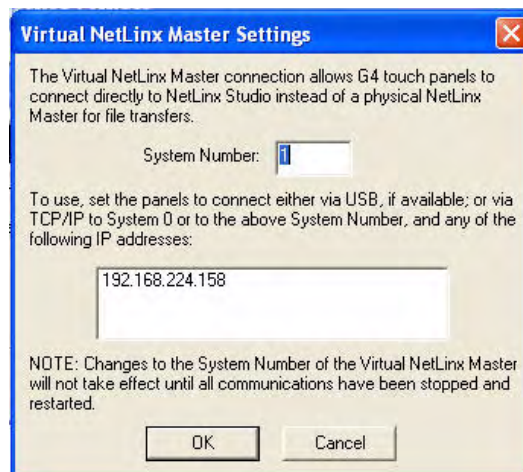

FIG. 38 Virtual NetLinx Master Settings dialog box
6. Click the **Edit Settings** button to open the *Virtual NetLinx Master Settings* dialog (FIG. 38).